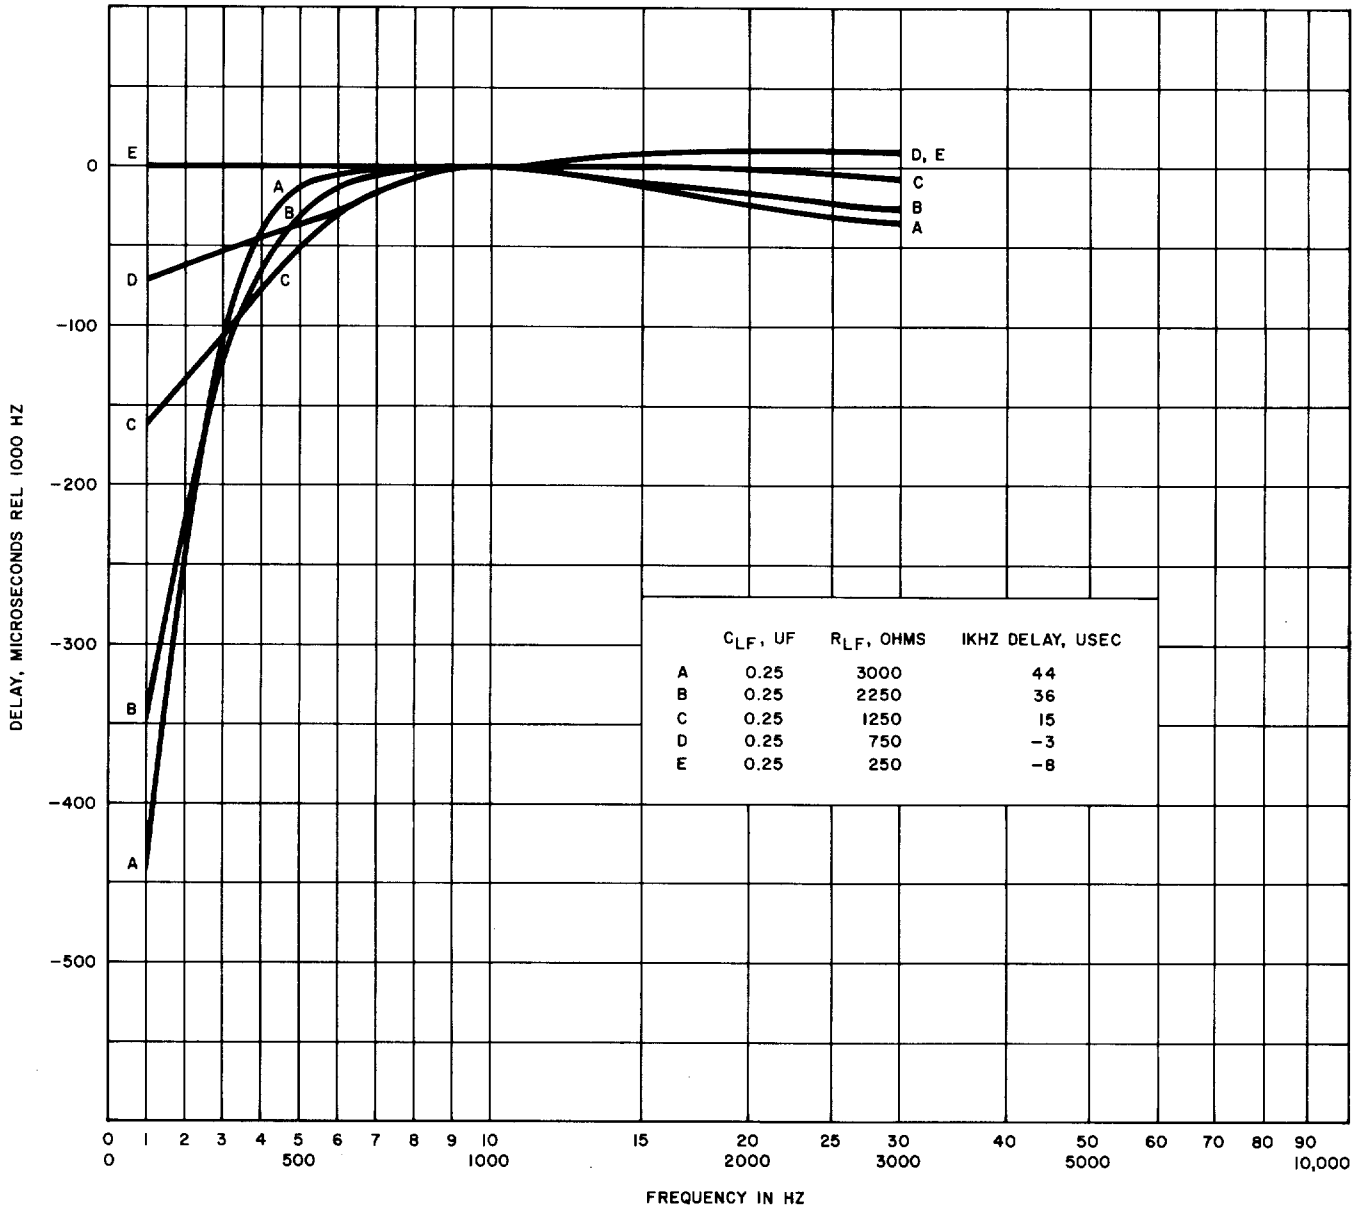
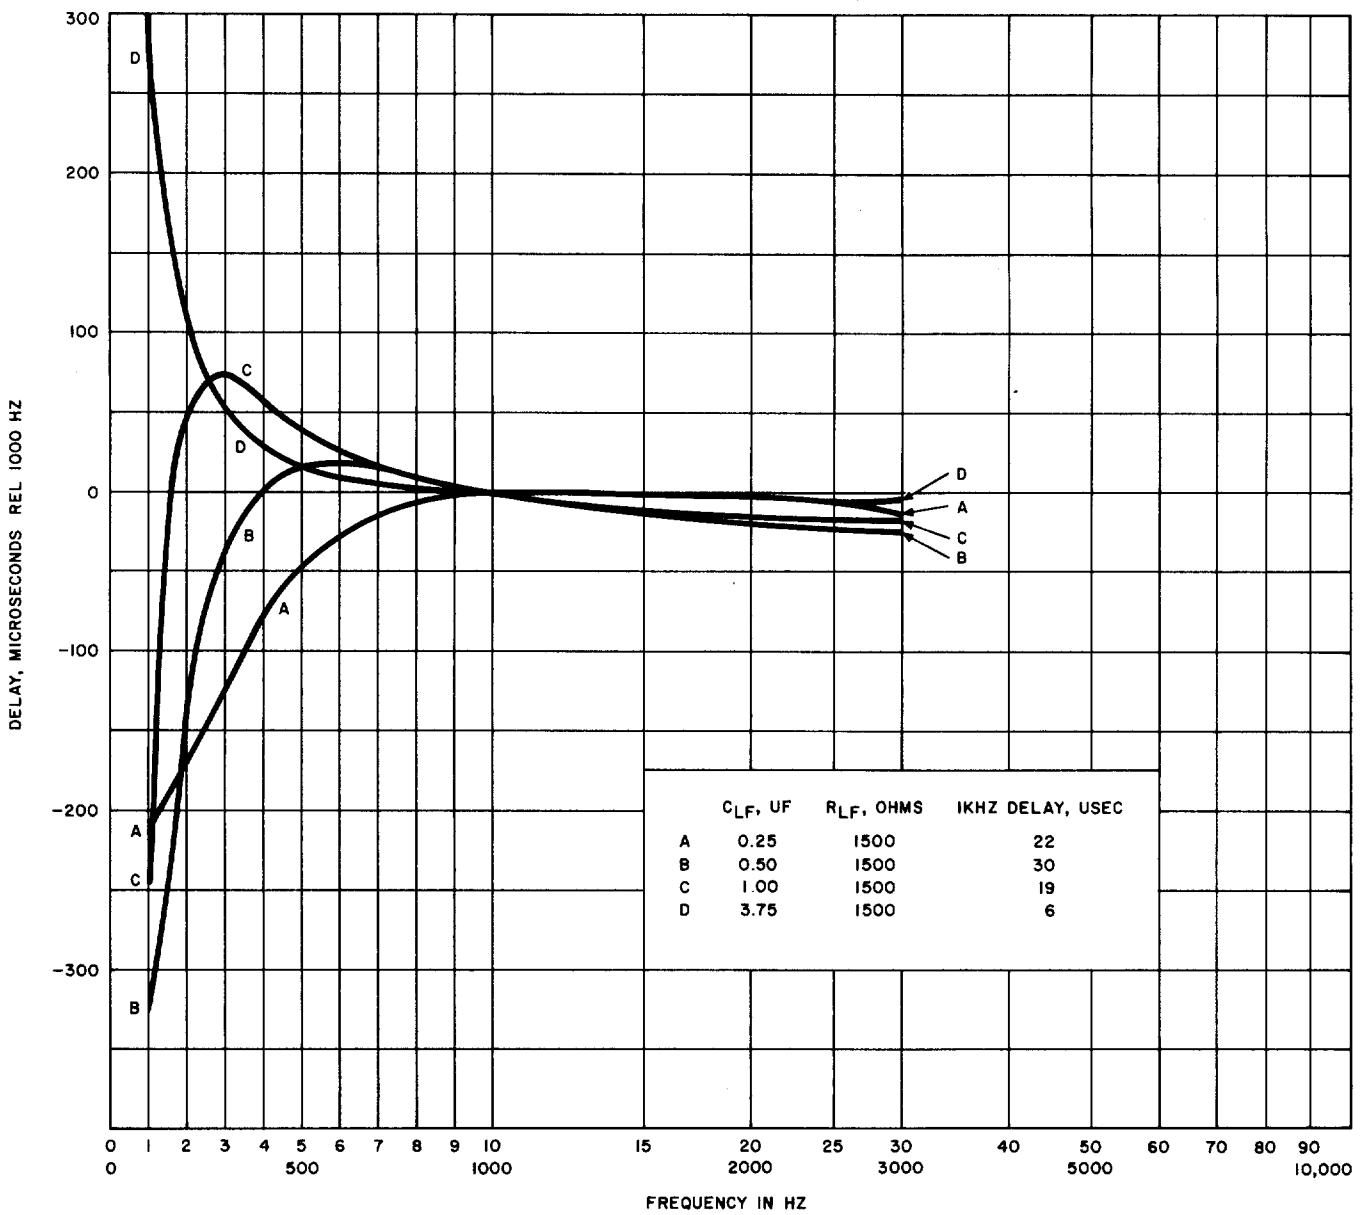

Fig. 7—359D Equalizer, Low-Frequency Section—Delay-Frequency Characteristics—Between 600-Ohm Impedances—Varying R_L for $C_L = 0.25 \mu F$
Fig. 8—359D Equalizer, Low-Frequency Section—Delay-Frequency Characteristics—Between 600-Ohm Impedances—Varying C_L for $R_L = 1500$ Ohms
3.07 While the series arm, low-frequency components R_{LF} and C_{LF} provide compensation for amplitude distortion, they introduce delay distortion at the same time. Figures 7 and 8 illustrate typical delay-frequency characteristics obtained by various combinations of C_{LF} and R_{LF} . Figure 7 illustrates the results of keeping C_{LF} constant at $0.25 \mu F$ and varying R_{LF} with the HF section out of the circuit; Fig. 8 shows the results of keeping R_{LF} constant at 1500 ohms and varying C_{LF} with the HF section out of the circuit.